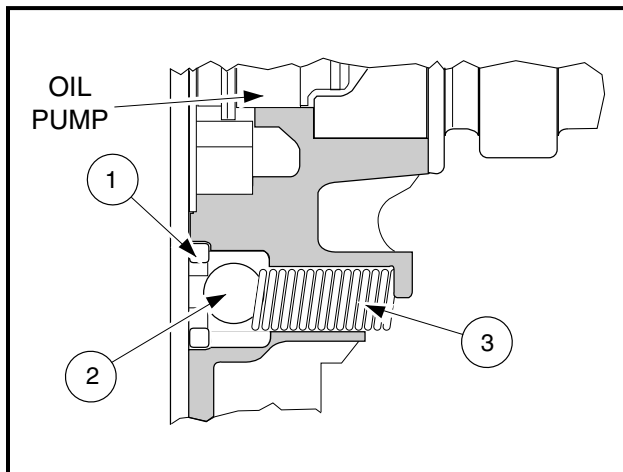
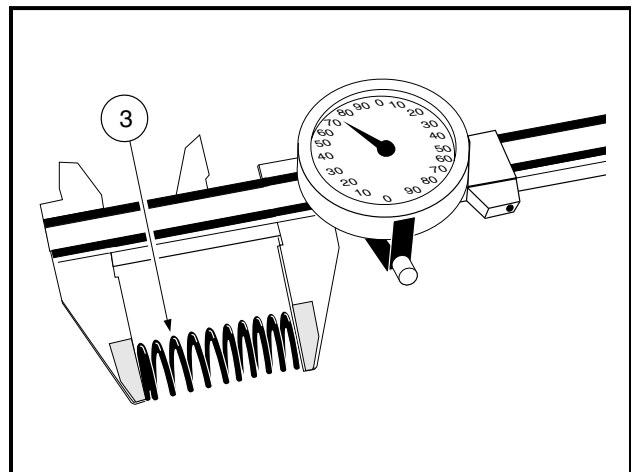

Figure 18-62 Oil Pressure Relief Valve
Figure 18-63 Measure Free Length of Spring
2. Remove the valve seat (1), ball (2) and spring (3) (**Figure 18-62, Page 18-31**).
1. Note the condition of the ball (2) and the valve seat (1). They must not have any nicks or burrs. Replace if necessary (**Figure 18-62, Page 18-31**).
2. Inspect the relief valve spring (3) for pitting, cracks, rusting and burrs. Replace if necessary.
3. Measure free length of the spring (3) with a vernier caliper (**Figure 18-63, Page 18-31**). If the free length of the relief valve spring is less than 0.748 inches (19.00 mm), replace the spring.